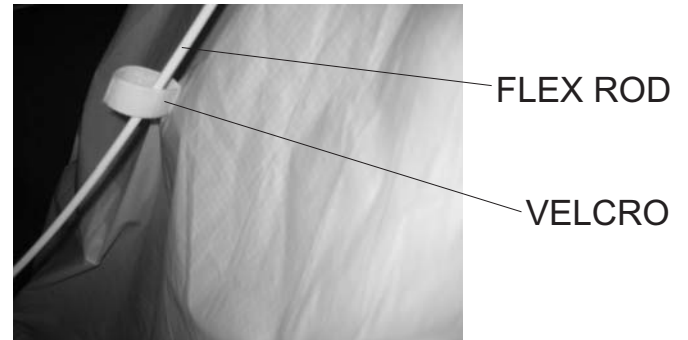

Figure 12. Attaching Balloon to Flex Rods
15. On the inside of the balloon, attach the velcro to each of the flex rods. See Figure 12.